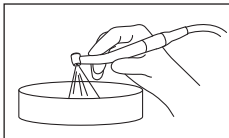

Fig. 10
- 4) Operate the handpiece at the chair-side for at least 20 seconds to purge fluids in the handpiece (Fig. 10). After the handpiece rotation has completely stopped, touch the handpiece head